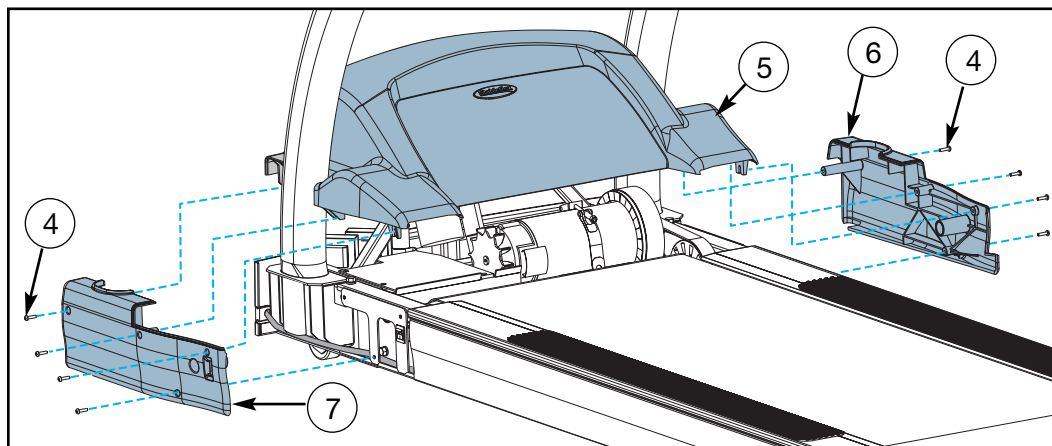

Figure 12
- A.** Using a Phillips head screwdriver, partially tighten each motor cover side (left and right) with four 10-32 x .75 Phillips head screws. See Figure 12.
- B.** Place the motor cover center into position. See Figure 12.